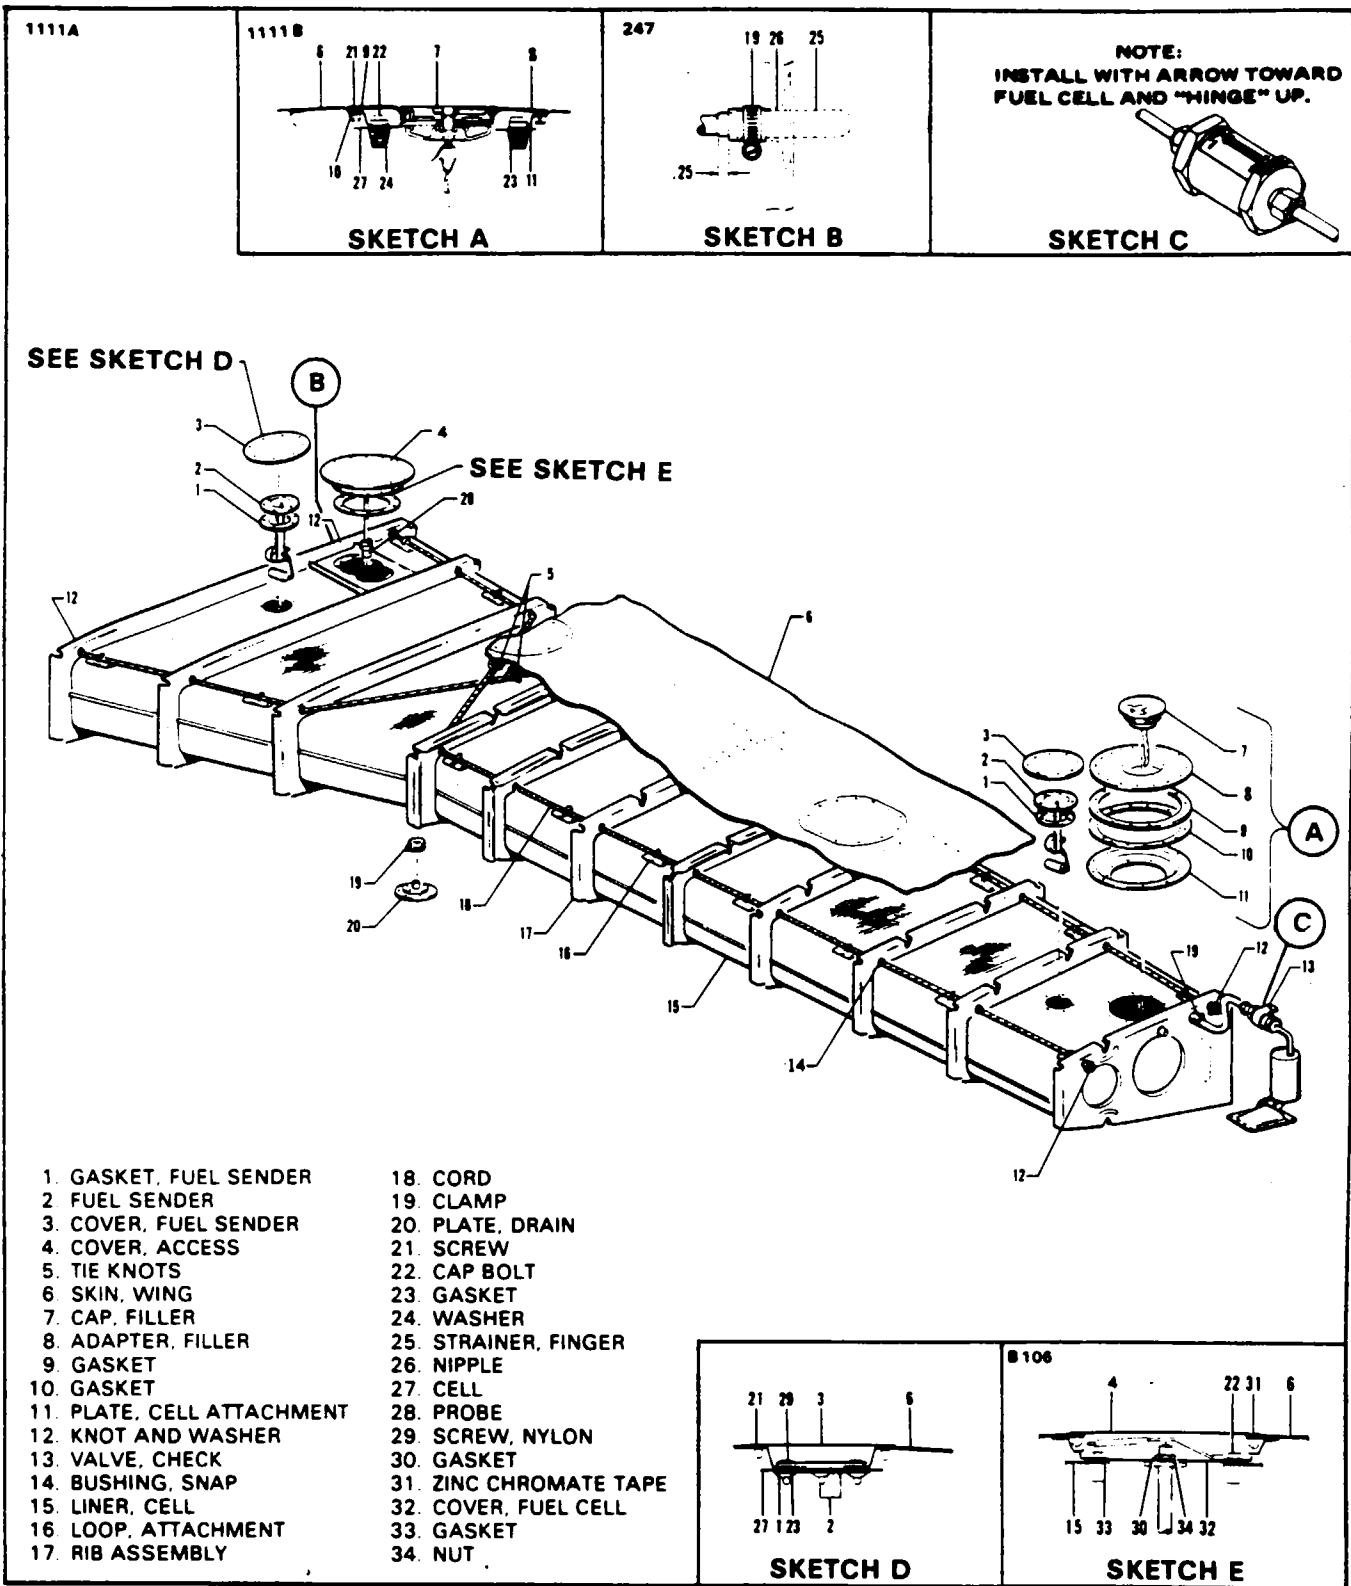

Figure 9-2. Fuel Cell Installation (Main/Inboard)
9-5. REMOVAL OF WING FUEL CELLS. (Refer to Figure 9-2 or 9-3.)
- a. Insert the outlet tube finger strainer into the fitting as shown in Sketch "B," Figures 9-2 and 9-3.
9-10. INSTALLATION OF WING FUEL CELL. (Refer to Figures 9-2 and 9-3.)
- i. Lay out the nylon cord (furnished with fuel cell) on the wing to determine the length of cord for each tie. The cords are routed as shown in Figures 9-2 or 9-3. Allow enough extra cord to work with.